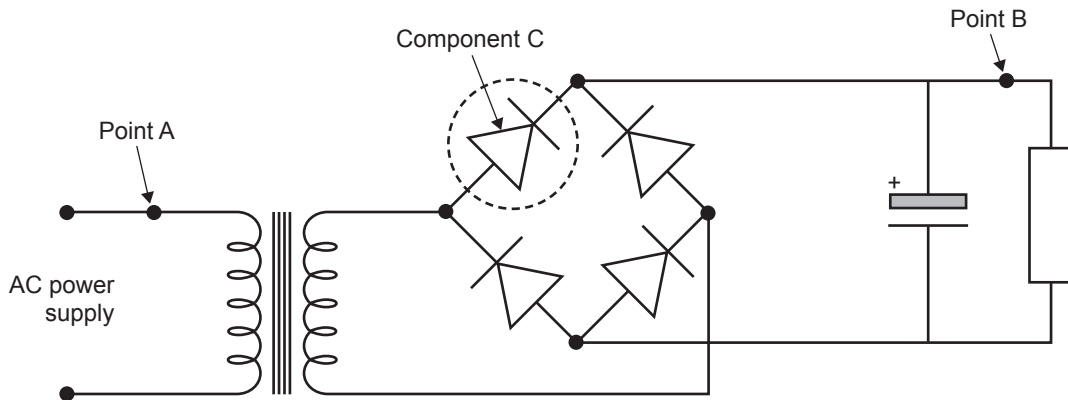

Figure 6
Name Component C shown in Figure 6 above.
a. Sketch the wave form at Point A shown in Figure 6.
b. Sketch the wave form at Point B shown in Figure 6.